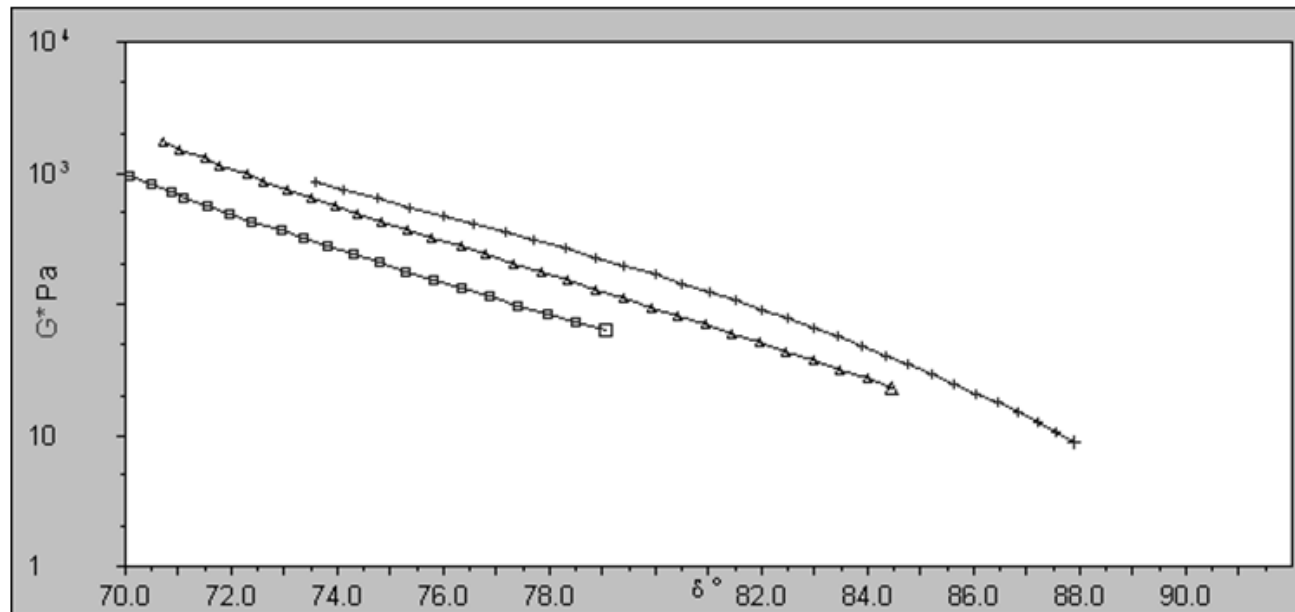

FIGURE X15.2- Poor example of Black Space diagram
- X15.2. A poor example of a Black Space diagram, where there are obvious discontinuities in the results (Figure X15.2). In the case of a poor Black Space, the data should be retested with particular attention to ensuring all the data are collected in the linear visco-elastic region by ensuring the correct strains are applied properly to all frequencies and that the temperatures are correct for each frequency tested. (Figure X15.2)